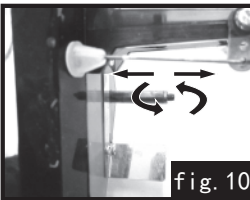

fig. 10
- 10.Rotate the main shaft clockwise/anti-clockwise, and move forward/backward to make sure the oil is evenly inside the tube,fig.10.